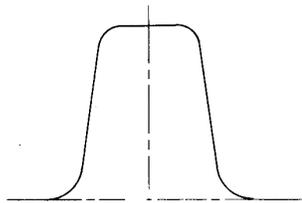

Figure 3-1A. FM IF Waveform
2. With the sweep generator frequency set to 10.7 MHz, gradually increase the output level of the sweep generator until the waveform shown in figure 3-1A appears on the CRT screen. Perform the adjustment with the generator output as small as possible and the oscilloscope vertical gain as large as possible.
3. Adjust IFT1 to obtain a symmetrical and clear waveform as shown in figure 3-1A.